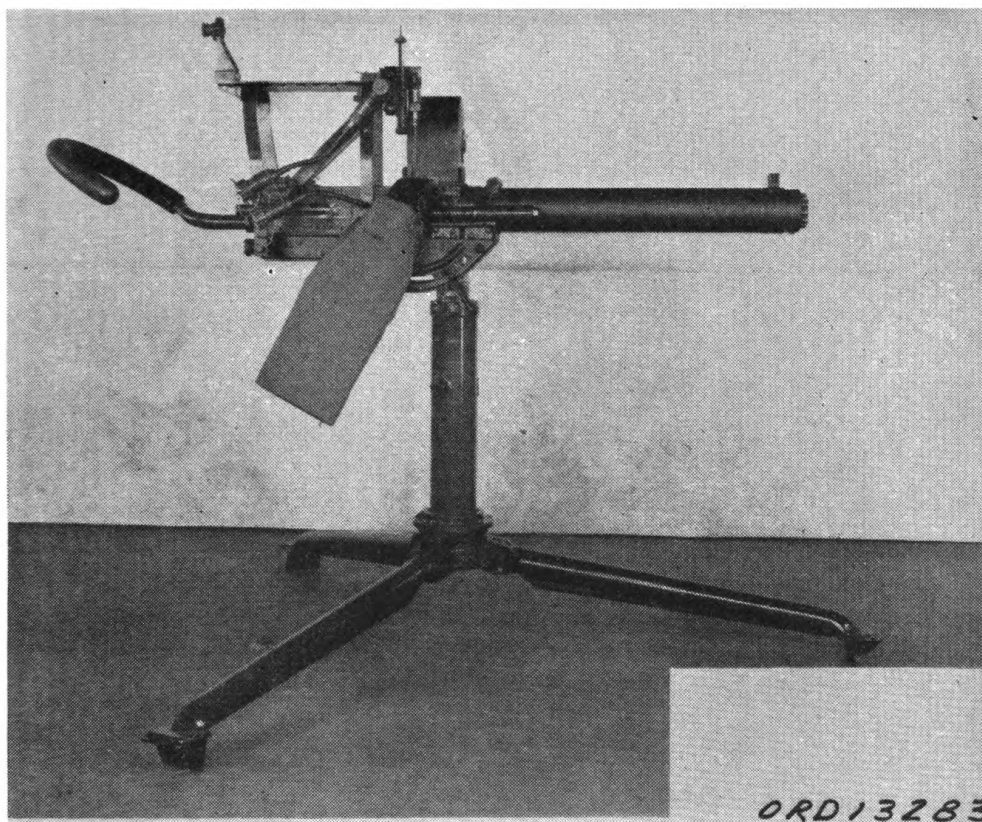

FIGURE 3.—Antiaircraft machine-gun mount, caliber .50, M2, zero elevation.
7. Description of anti-aircraft machine-gun mount, caliber .50, M2.—*a.* The anti-aircraft machine-gun mount, caliber .50, M2 is normally assembled with tripod legs as shown in figures 3, 4, and 5. By removing the tripod legs and assembling a pedestal base the mount may be mounted on decks or other permanent positions. When assembled with tripod legs the mount is designated as anti-aircraft machine-gun tripod mount, caliber .50, M2, and when assembled with pedestal base is designated as anti-aircraft machine-gun pedestal mount, caliber .50, M2. Except for the pedestal base the pedestal mount is identical with the tripod mount described herein.